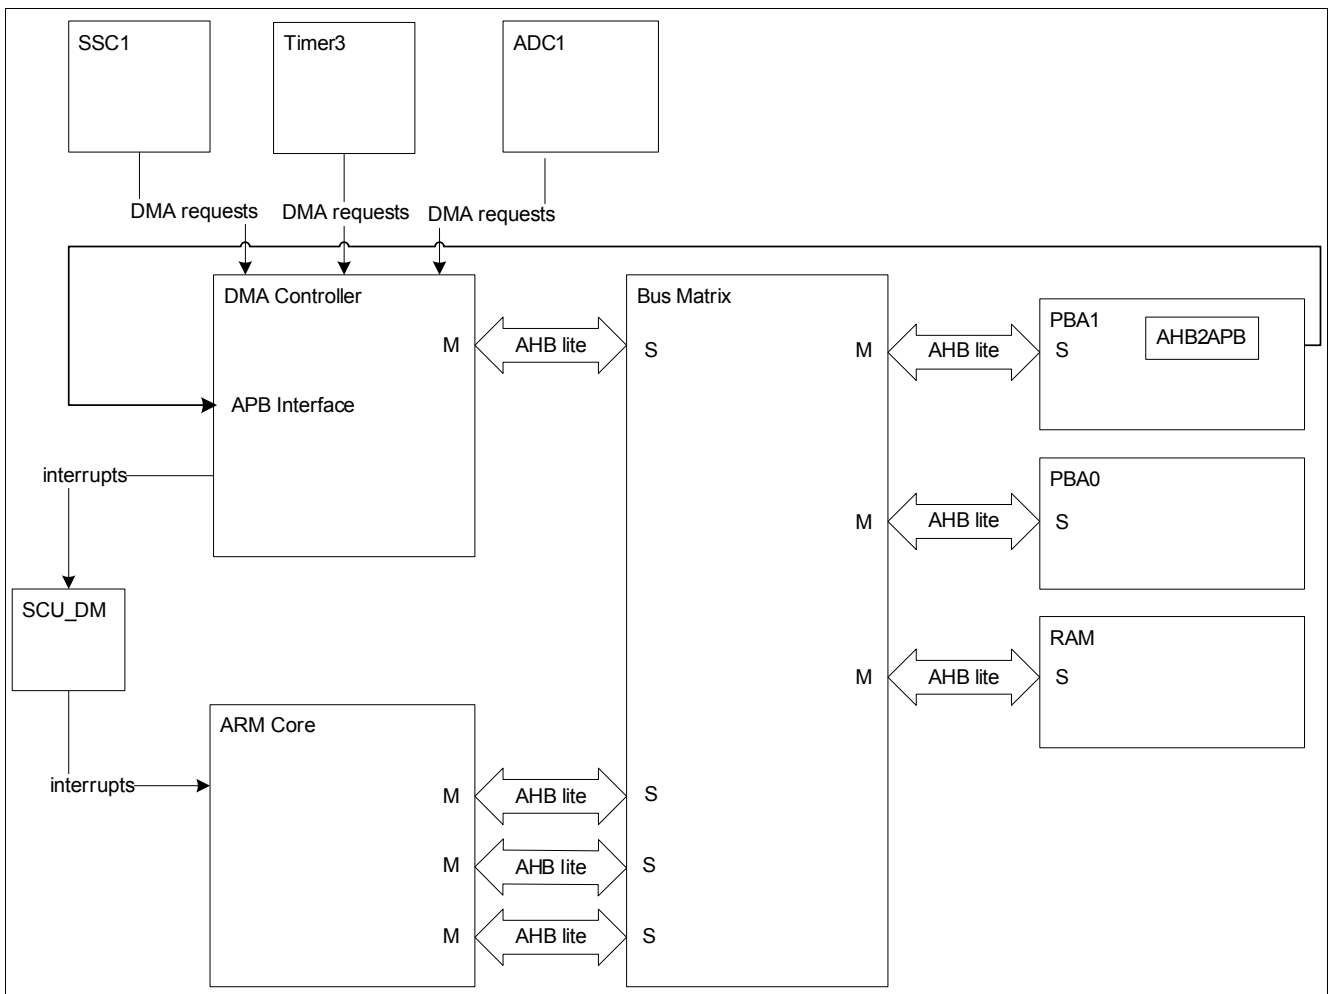

Figure 13 DMA Controller Top Level Block Diagram
**Figure 13** shows the Top Level Block Diagram of the TLE9861QXA20.